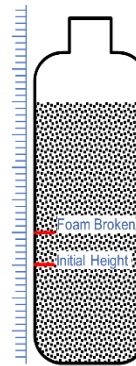

Figure 2
- Vigorously shake the sample bottle 40 times and then place bottle on a flat surface. See Figure 2.